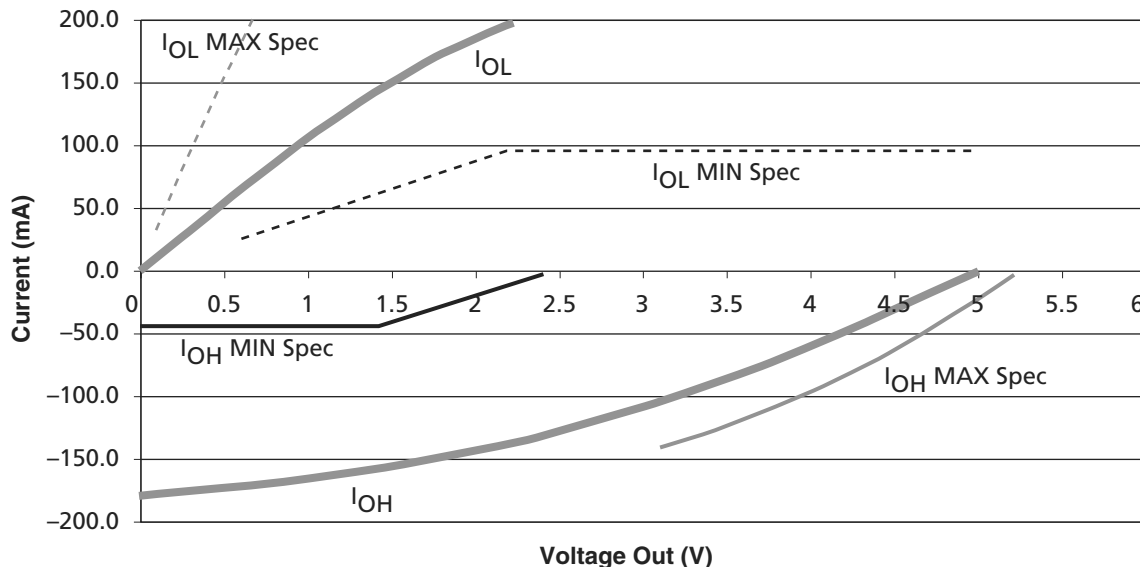

Figure 2-1 • 5 V PCI V/I Curve for SX-A Family
1. Refer to the *V_I* curves in Figure 2-1 on page 2-5. Switching current characteristics for REQ# and GNT# are permitted to be one half of that specified here; i.e., half size output drivers may be used on these signals. This specification does not apply to CLK and RST#, which are system outputs. "Switching Current High" specifications are not relevant to SERR#, INTA#, INTB#, INTC#, and INTD#, which are open drain outputs.
3. Maximum current requirements must be met as drivers pull beyond the last step voltage. Equations defining these maximums (A and B) are provided with the respective diagrams in Figure 2-1 on page 2-5. The equation defined maximum should be met by design. In order to facilitate component testing, a maximum current test point is defined for each side of the output driver.
Figure 2-1 shows the 5 V PCI V/I curve and the minimum and maximum PCI drive characteristics of the SX-A family.